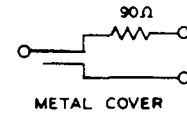

Fig. 10—336A Plug
2.09 336A: The 336A plug (Fig. 10) has two conductors and a KS-8477 resistance (90-ohm), having one terminal connected to the tip of the plug. The other terminal is arranged for connection to a WIAE cord, and the sleeve of the plug is not for cord connections. The plug is used with the 238-type jacks and the 40C test set.